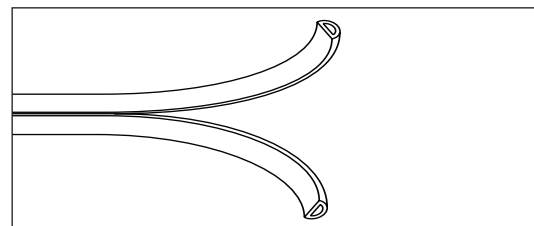

FIGURE 2. Carefully separate seal strip. **DO NOT CUT!**
- a. Carefully separate (NOTE: PULL APART - DO NOT CUT) seal strip. (Fig. 2)